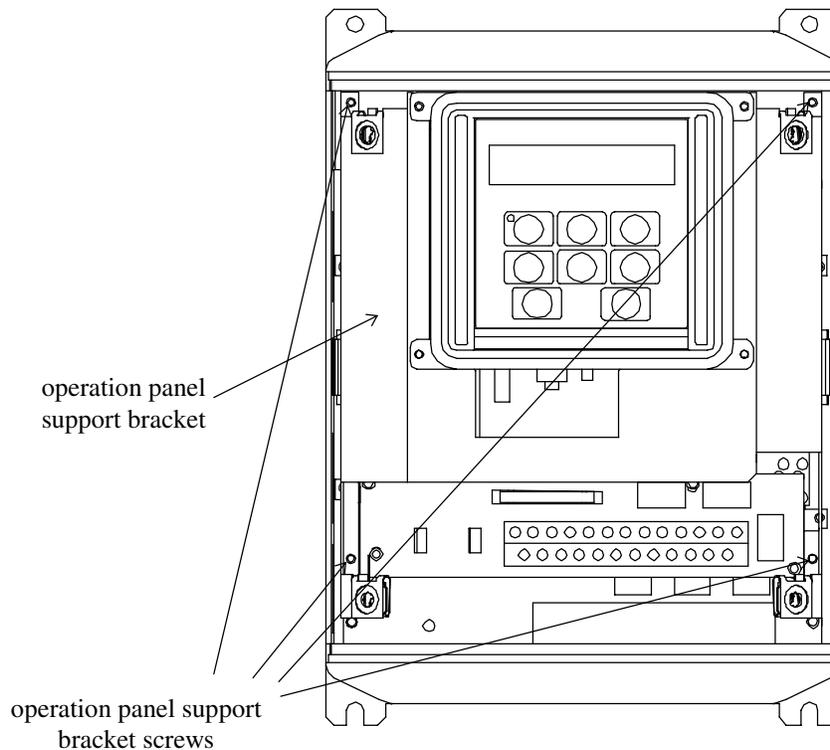

Figure 1: G3 with front cover removed
5. Loosen the 4 screws attaching the G3's operation panel support bracket to the control board support bracket and remove the operation panel and support bracket as a unit (refer to Figure 1).